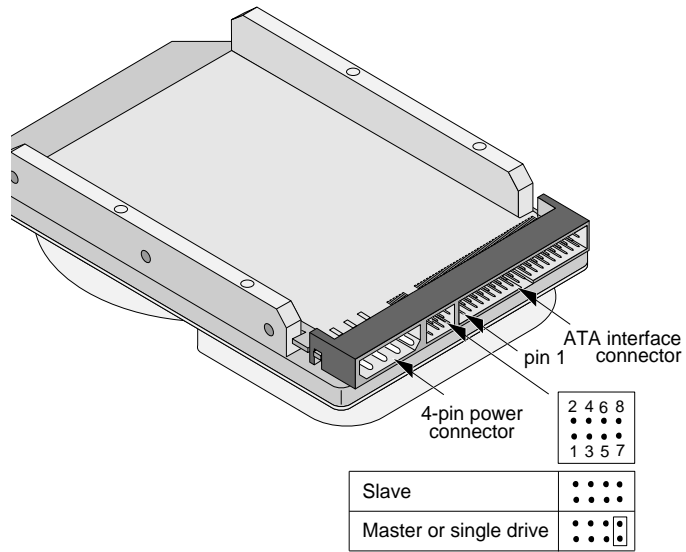

Figure 1. Master and slave jumper settings
- Place a jumper on pins 7 and 8 (see Figure 1 on page 5).